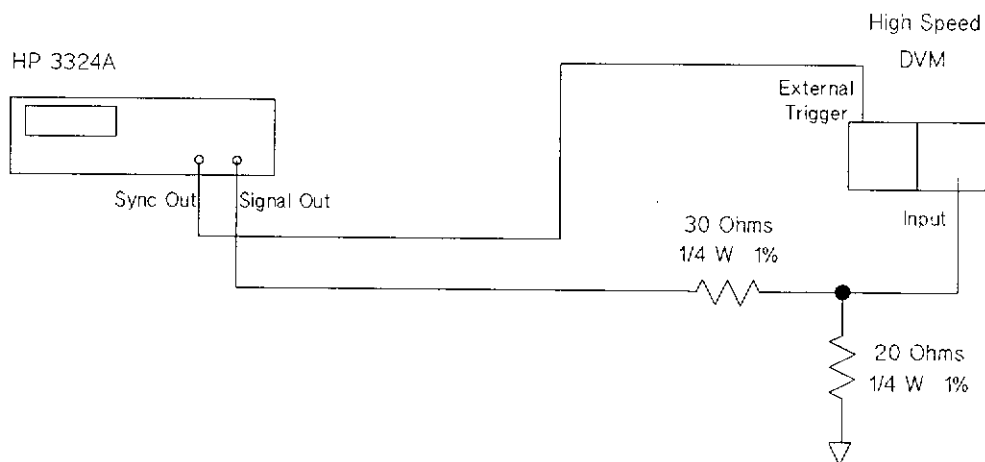

Figure C-9. Triangle Linearity Test Set-Up
1. Connect the HP 3324A and the high-speed voltmeter through the divider as shown in Figure C-9.
6. The reset portion should show more than one line, as in Figure C-9. The lines should not be separated by more than five divisions on the display.